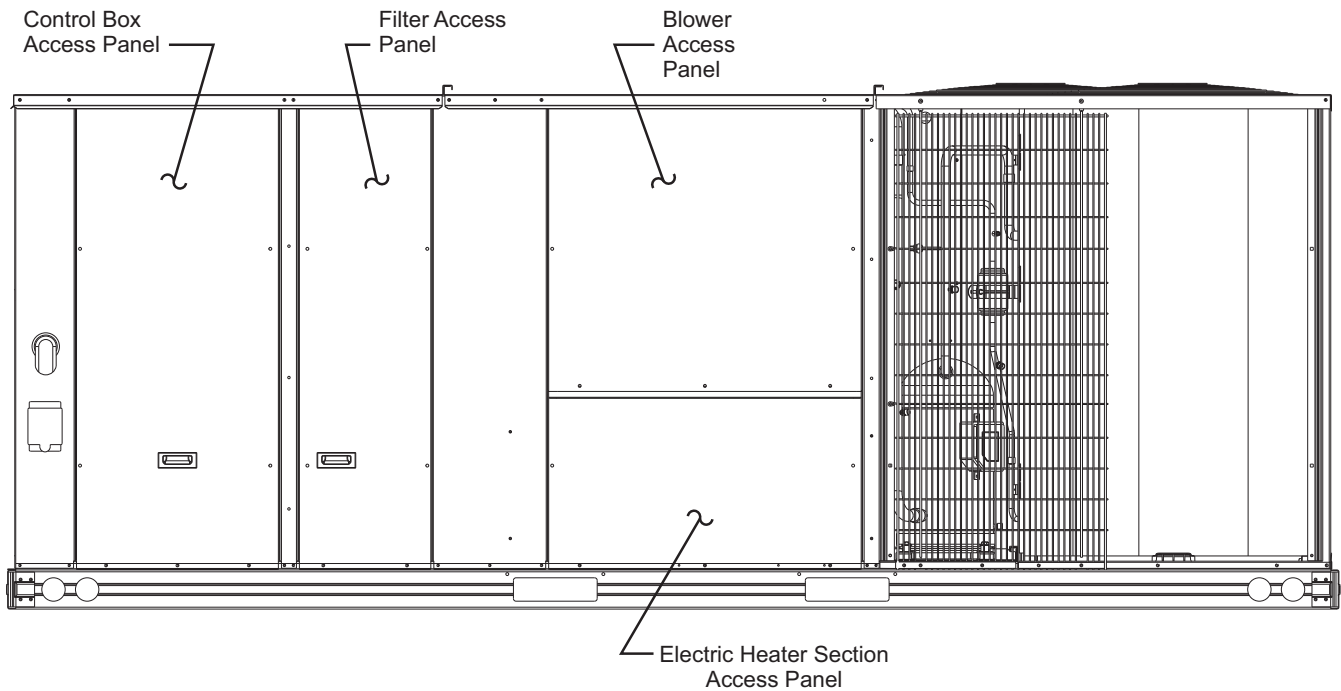

Fig. 40 — Typical Unit — Access Panel Locations
2. Remove electric heater section access panel, control box access panel, filter access panel, and blower access panel from base rooftop unit. (See Fig. 40.)